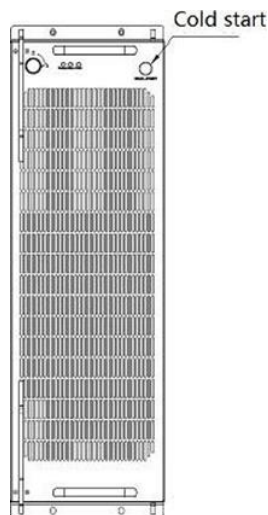

Fig. 3-6 Cold Start
3. Trigger the cold start button of the bypass module (Fig. 3-6). When battery normal, rectifier starts operation, 30 s later, inverter starts and operates and the green LED will light on.